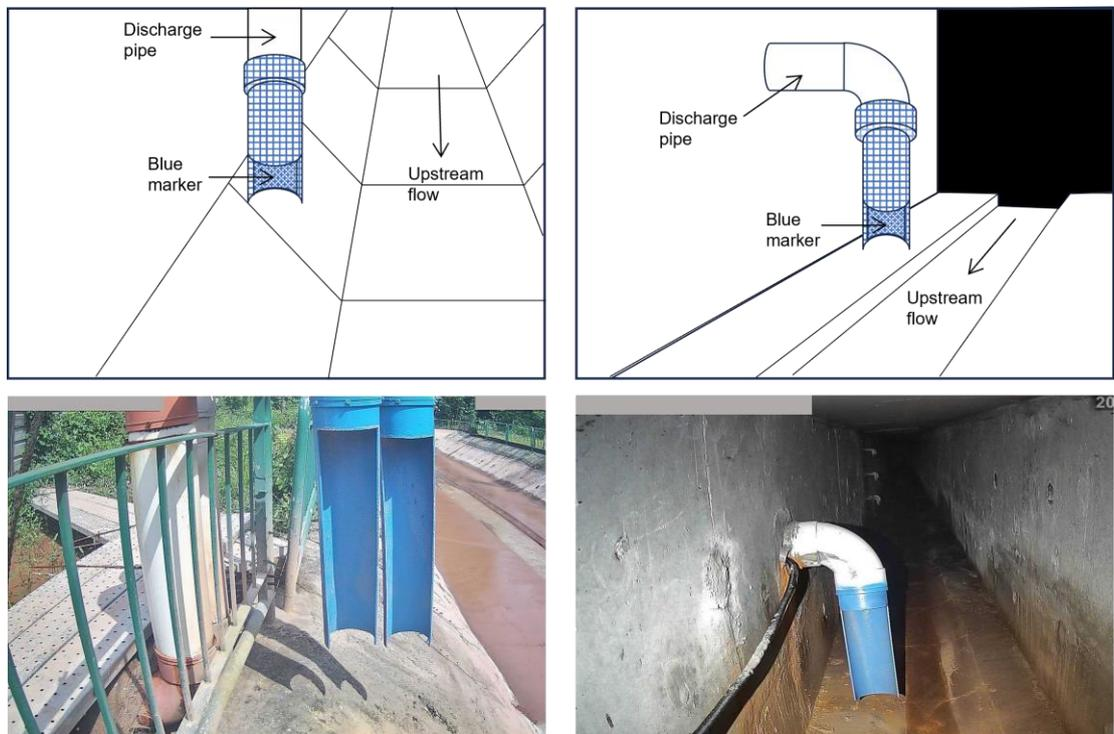

Figure 1. Examples of painted Blue-Marker at discharge points.
- (1) Contractor shall provide a CCTV system at the public drain near the discharge outlet(s) of the site to monitor the discharge from the site. The CCTV shall display the following clearly:
- (2) Discharge pipe shall be painted with a waterproof blue-marker with the painting colour code of RAL 5012 (CMYK 77% 41% 4% 0%, Sky Blue) and installed at a fixed location (i.e. discharge point) where the discharged water would always flow downwards. The pipe shall be cut open to expose the inner side where a blue background can be implemented. Please refer to Figure 1.